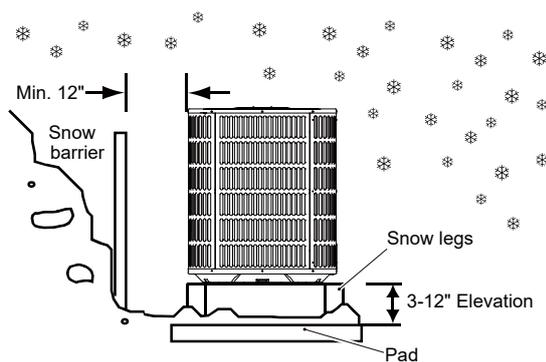

Figure 3-5
- Units should be elevated 3-12 inches above the pad or rooftop, depending on local weather. This additional height will allow drainage of snow and ice melted during defrost cycle prior to its refreezing. Ensure that drain holes in unit base pan are not obstructed, which could prevent the drainage of defrost water (Figure 3-5).